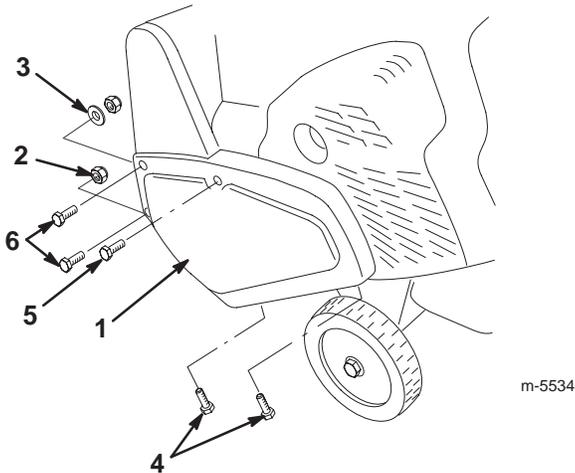

Figure 27
4. Remove the fasteners that secure the drive belt cover to the snowthrower frame (Fig. 27). Set the drive belt cover aside.